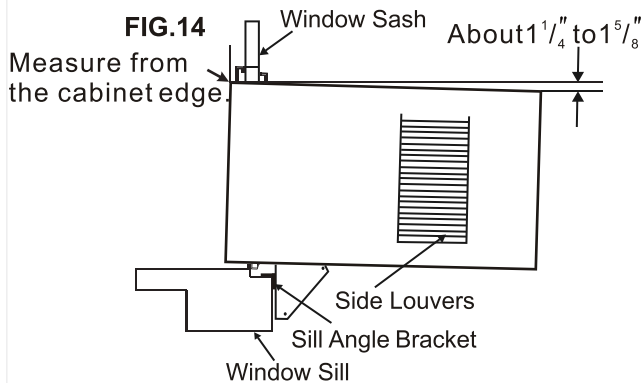

FIG. 14
**NOTE:** Check that air conditioner is tilted back about  $1\frac{1}{4}''$  to  $1\frac{5}{8}''$  (tilted about  $3^\circ$  to  $4^\circ$  downward to the outside). After proper installation, condensate should not drain from the overflow drain hole during normal use, correct the slope otherwise (Fig. 14).
**NOTE:** Check that air conditioner is tilted back about  $1\frac{1}{4}"$  to  $1\frac{5}{8}"$  (tilted about  $3^\circ$  to  $4^\circ$  downward to the outside). After proper installation, condensate should not drain from the overflow drain hole during normal use, correct the slope otherwise (Fig.14).